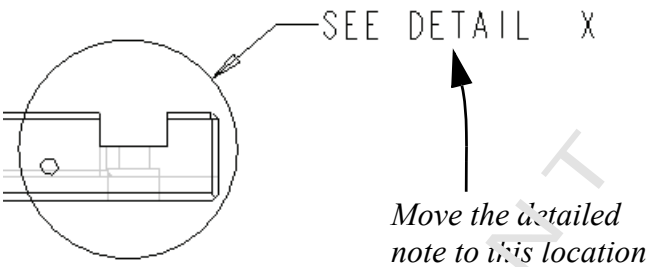

Figure 1-74
10. The detailed view note is located by default. To change this location, select the Annotate tab. Select the note on the drawing and move it as necessary, as shown in Figure 1-74.